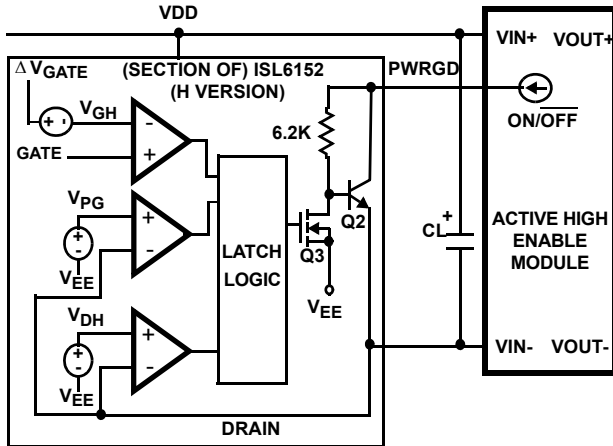

FIGURE 37. ACTIVE HIGH ENABLE MODULE
**ISL6152** (H version; Figure 37): Under normal conditions (DRAIN voltage -  $V_{EE} < V_{PG}$  and  $\Delta V_{GATE} - V_{GATE} < V_{GH}$ ), the Q3 DMOS will be on, shorting the bottom of the internal resistor to  $V_{EE}$ , turning Q2 off. If the pull-up current from the external module is high enough, the voltage drop across the 6.2kΩ resistor will look like a logic high (relative to DRAIN). Note that the module is only referenced to DRAIN, not  $V_{EE}$